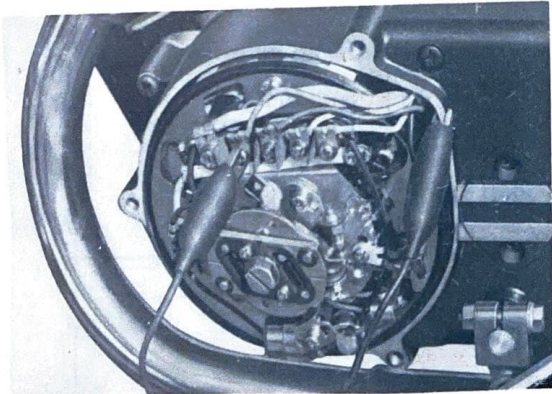

Fig. 6-5-16
- (6) Connect the electrotester (or point checker) terminals to the point assembly. Positive (+) lead to I_1 or I_2 . Negative (-) to a good ground. (Fig. 6-5-16)